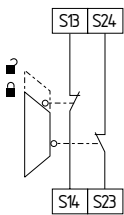

Fig. 7
**Dual-channel guard door monitoring circuit with interlocking device to ISO 14119 (Fig. 7)**